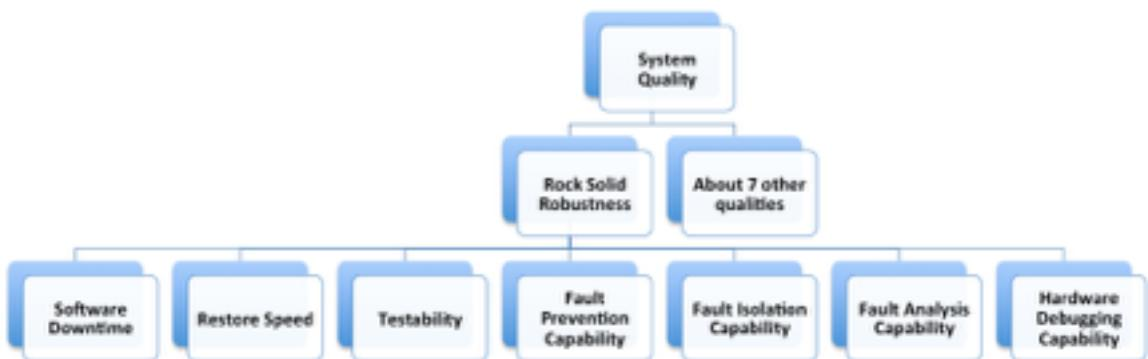

Figure 1.7 B. Decomposition of the Compound Objective "Rock Solid Robustness", into 7 elementary sub-objectives.
Figure 1.7 A . Some compound quality attributes. Including the one we worked out at IBM in the case above. (Source [1] CE Book, Figure 5.3, this free download [1B] contains details of Scales and of more usability sub-attributes)
*Figure 1.7 C. Systems can seem complicated, unintelligible past, present and future, for a variety of reasons. Compound parts, unrecognized and unspecified, is one possible reason, amongst several others.*